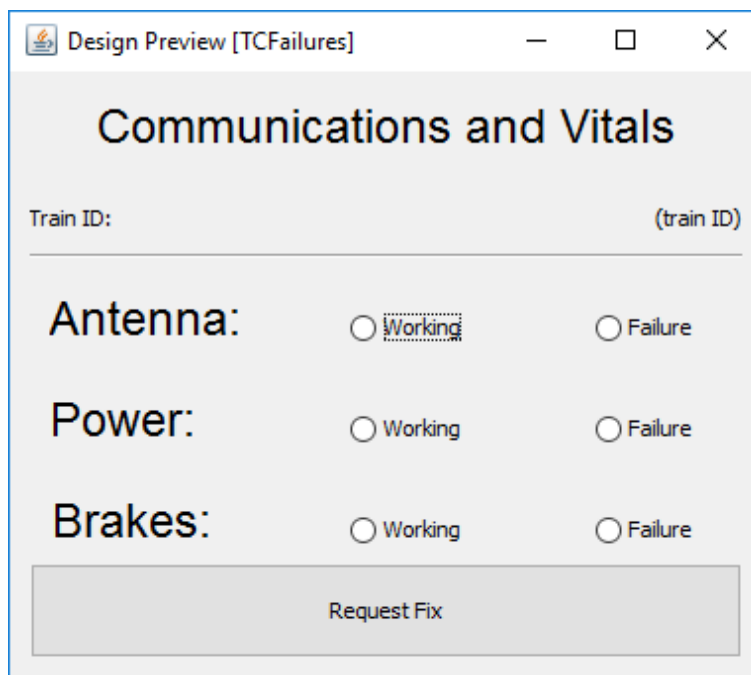

Figure 3: User interface for monitoring the failures of a train.
- Vitals - Clicking on this button opens the Failures window (Figure 3) to monitor the status of the 3 failures that can occur on the train. If any failures exist, the button will be red.
- Failures - Shows the status (Working/Failure) of the three failures that can occur on the train (power, antenna, and brake) If any of these failures exist, the user can request a fix by clicking the Request Fix button. Also, if any of these failures happen, this button will be red. This window can be seen in Figure 3.